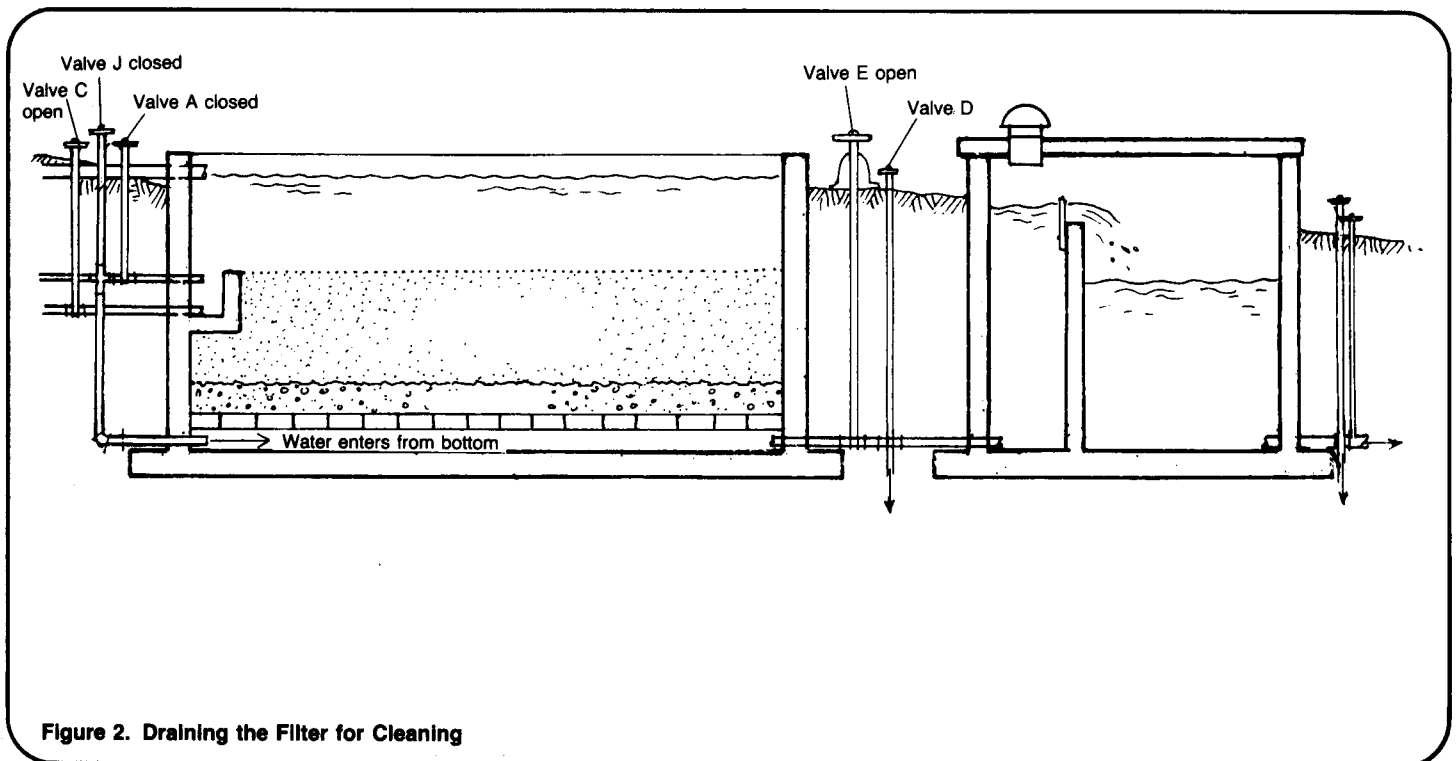

Figure 2. Draining the Filter for Cleaning
- When the water reaches the working level, open valve D as shown in Figure 2 and let the water run to waste at a rate of about one-quarter the normal filtration rate. Control the flow with the filter regulating valve. Run the filter for several weeks to allow the schmutzdecke to form on the sand. This is called the ripening process.
- Close inlet valve A shown in Figure 2 to stop the flow of water to the filter. As the head in the water reservoir drops, the rate of filtration decreases. Let filtration continue for a few hours, usually overnight.